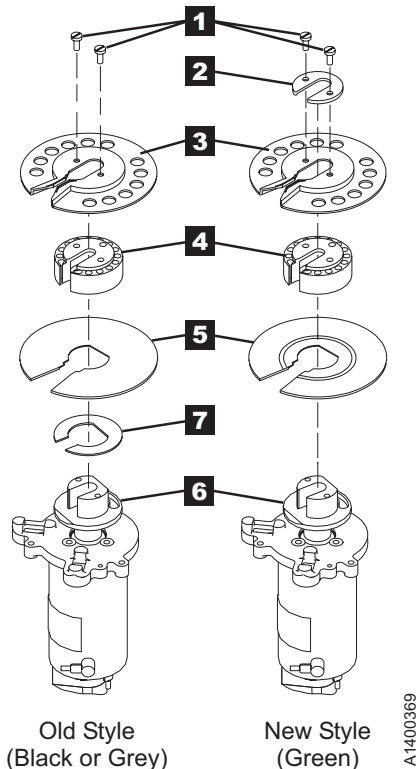

Figure 10-57. Machine Reel Hub Assembly
1. There are 3 levels of machine reel hub assemblies. See Figure 10-57.
**Note:** The new style green lower flange has a groove on one side of the flange. See item **5** Figure 10-57 on page 10-84. **Ensure the groove is on the top, as shown.**